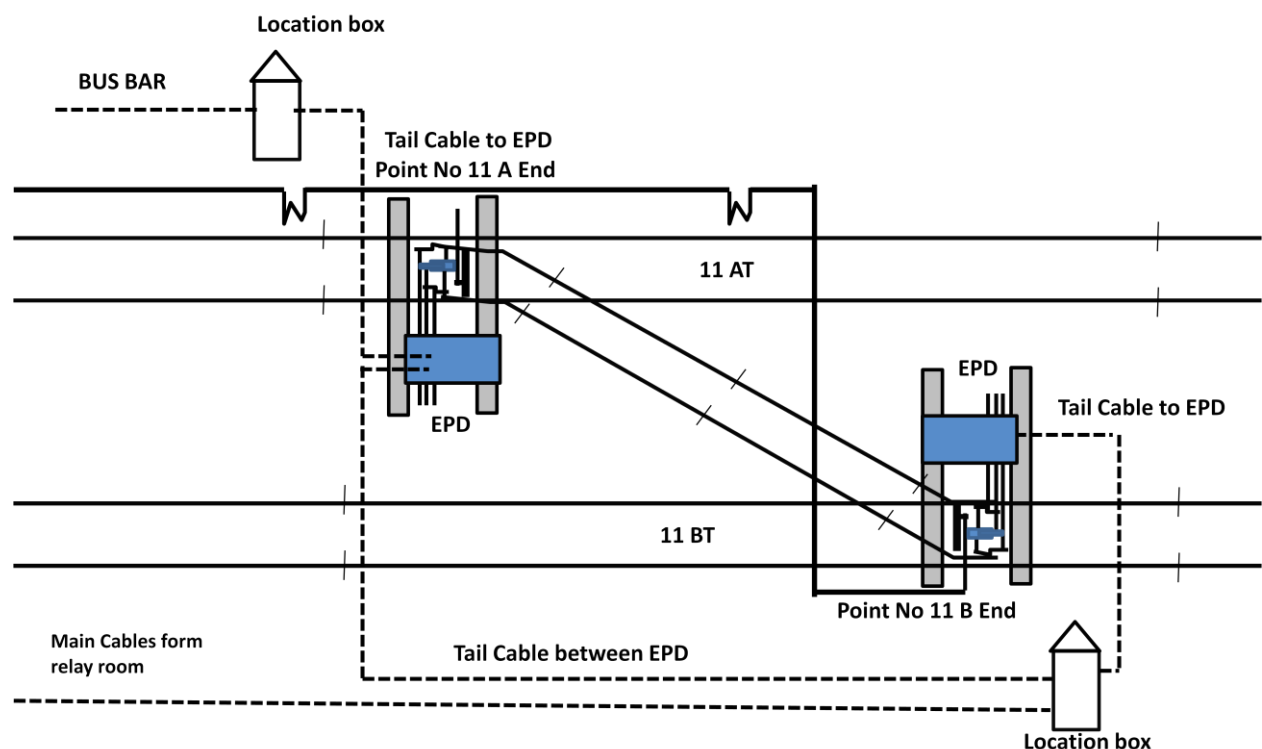

Fig: 1.1 EPD LAYOUT WITH BOTH END EPD WIRED IN SERIES
EPDs provided on both end of a crossover can be wired in series or each end of crossover can be wired independently. It was practice to wire EPD in series fig 1.1, 1.1a & fig 1.1b with cross protection and using shunt contacts of EPD. When point is set & lock in normal position then normal detection (ND) and normal shunt contact will make and when point is set & locked in reverse position then reverse detection (RD) and reverse shunt contact will make. In series type of wiring, the supply must go through cross protection loop (between reverse detection terminal number1 &8) and shunt contacts. In series wiring fuse used to blow up due non-sequential making and opening of shunt contacts during point operation, hence this type of wiring is avoided. Further in series wiring failure of one end of cross over Or failure in one end of EPD use to cause failure of both end indication relay (NWKR/RWKR) hence signal on both side of crossover use to fail.
Fig: 1.1 a EPD WITH BOTH END EPD WIRED IN SERIES
Fig: 1.1 b EPD WITH WIRING FOR EACH END OF CROSSOVER WITH CROSS PROTECTION